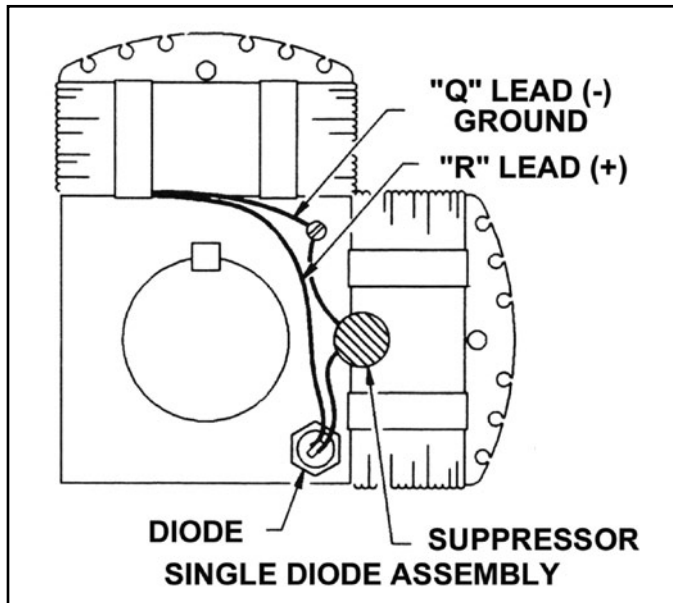

Figure 2
### **Flashing the Rotor - Refer to Figure 2**
- a. Check each diode individually by removing the (+) rotor lead stud connection (see Figures 2 and 3). Diodes are good if the resistance reading is approximately mid-scale on the lowest ohm rating.